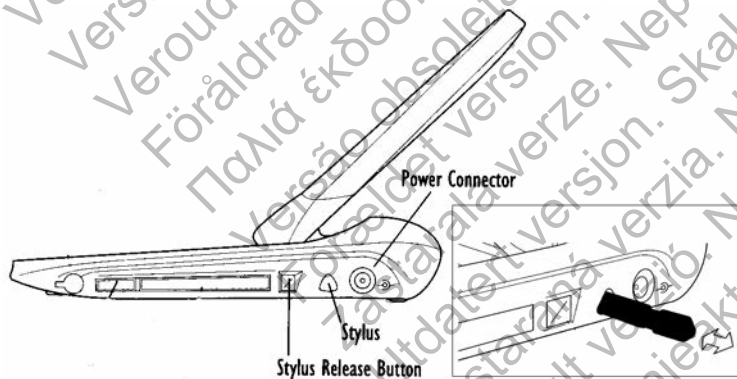

Figure 5: Removing The stylus
1. Push the square stylus eject button on the right side of the programmer base. The stylus is ejected from the holder (Figure 5).